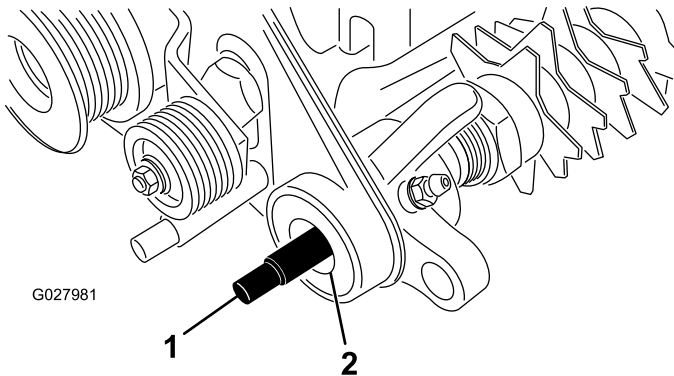

Figure 5
11. Apply grease to the seals in the drive-assembly bearing support and to the end of the groomer shaft (Figure 5).
12. Slide the splined end of the groomer shaft into the drive-assembly bearing support (Figure 5).